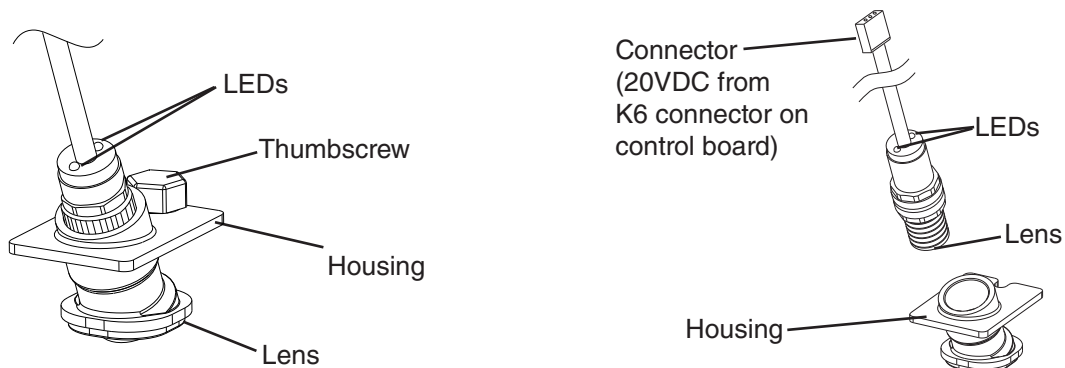

Fig. 4
- 4) Confirm that BC1 is connected to CB K6 connector. Wipe down BC1 lens with a warm, clean, damp cloth. If the bottom of the icemaker is not accessible in your application, remove the thumbscrew securing the BC1 housing, then remove the housing from the base. See Fig. 4.
- 6) Turn on the power supply to start the automatic icemaking process. Check that BC1 green LED is on. The BC1 green LED confirms 20VDC power from CB to BC1 and remains on constantly. **Diagnosis:** If the BC1 green LED is not on, confirm 20VDC at CB K6 #1 (DBU) to CB K6 #3 (BR). If 20VDC is present and the BC1 green LED is off, replace BC1. If not, see step "3) BC1 (infrared sensor) Power Supply," under "II.C. Control Board Check.
- 8) CB "GM" and "COMP" LEDs are on. Use an object to cover BC1 lens at the bottom of the icemaker. If the bottom of the icemaker is not accessible in your application, remove the thumbscrew securing BC1 housing, remove the housing from the base, then cover BC1 lens. See Fig. 4. The yellow LED on BC1 turns on (flashing or steady). The yellow LED flashes when ice is at the outer limit of its range and turns steady as ice nears. After the yellow LED turns on (flashing or steady), BC1 shutdown delay timer starts. See "III.B.2. BC1 (Infrared Sensor) Shutdown Delay (S1 dip switch 1, 2, 3)." Comp (LLV/SLV on MLH model) should de-energize immediately after the shutdown delay timer terminates. 5 min. later, GM and FM/FMR should de-energize.